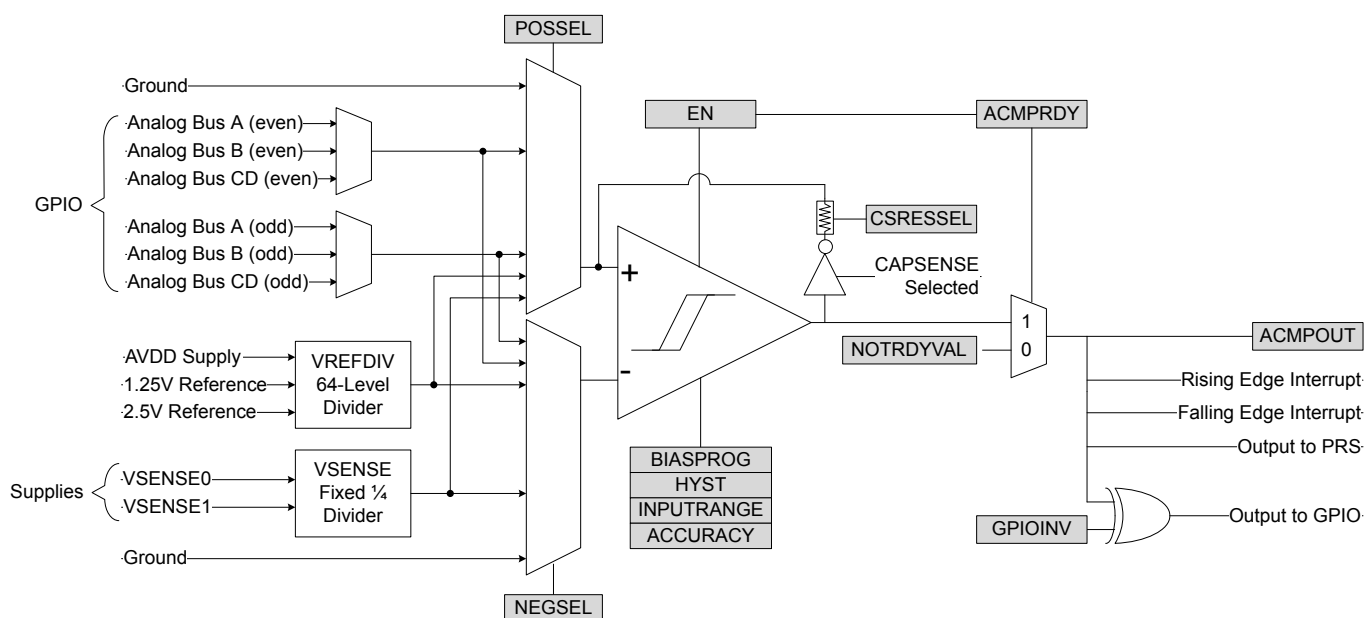

Figure 3.1. ACMP Overview
The ACMP also has a sample/hold circuit to reduce energy consumption. This can be enabled by selecting VSENSE01DIV4LP or VSENSE11DIV4LP for either POSSEL or NEGSEL, and the input to the comparator core will be divided by 4, as illustrated in Figure 3.1 ACMP Overview on page 4. Please note, the sample/hold feature is non-continuous so there will be an increase in response time and reduction in accuracy. Accuracy settings are set to LOW by default, which conserves power. A high accuracy setting is generally used for high-frequency changes on the inputs, such as scanning through channels or using the capacitive sense feature.
- Moved Figure 3.1 ACMP Overview on page 4 to 3. Supply Voltage Monitoring using ACMP section.